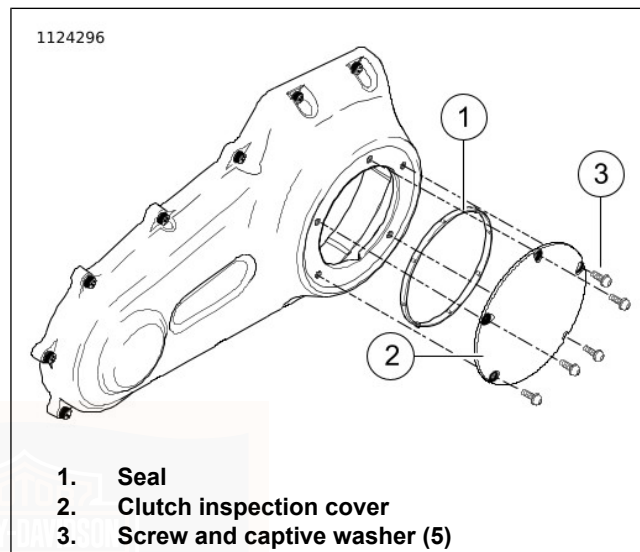
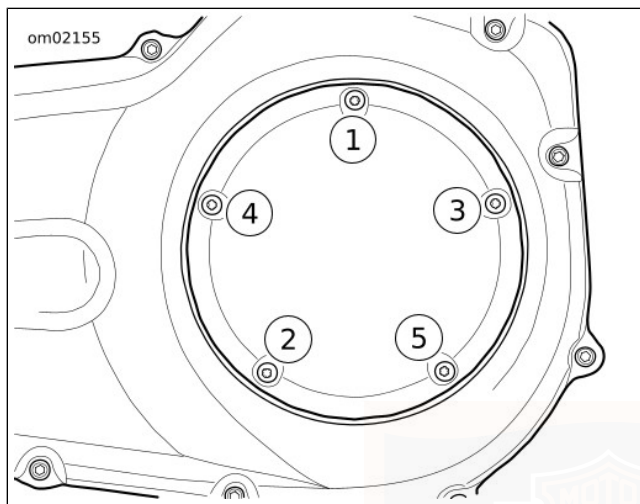

Figure 73. Clutch Cover (Typical)
Figure 74. Clutch Cover Tightening Sequence
6. See Figure 73. Remove screws (3) and clutch inspection cover (2).
7. Remove seal (1). Wipe oil from groove in chaincase cover and mounting surface.
- b. See Figure 73. Position **new** seal (1) in groove in clutch inspection cover (2). Press each of the nubs on seal into the groove.
- c. Secure clutch inspection cover (2) with screws with captive washers (3).
- d. See Figure 74. Tighten in sequence shown to 9.5–12.2 N·m (84–108 **in-lbs**).